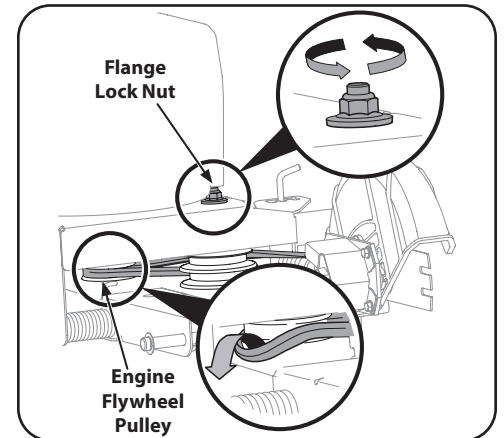

Figure 4-3
**NOTE:** To aid in reassembly, note the orientation of the drive belt on the two idler pulleys and the engine flywheel pulley prior to performing the following steps. Refer to Figure 4-3.
1. Working in front of the edger, loosen the flange lock nut on top of frame, allowing the idler pulley assembly to pivot slightly out from the frame. See Figure 4-3.
2. With your other hand, carefully reach under the rear of the edger and remove the belt from around the engine flywheel pulley. See Figure 4-3.